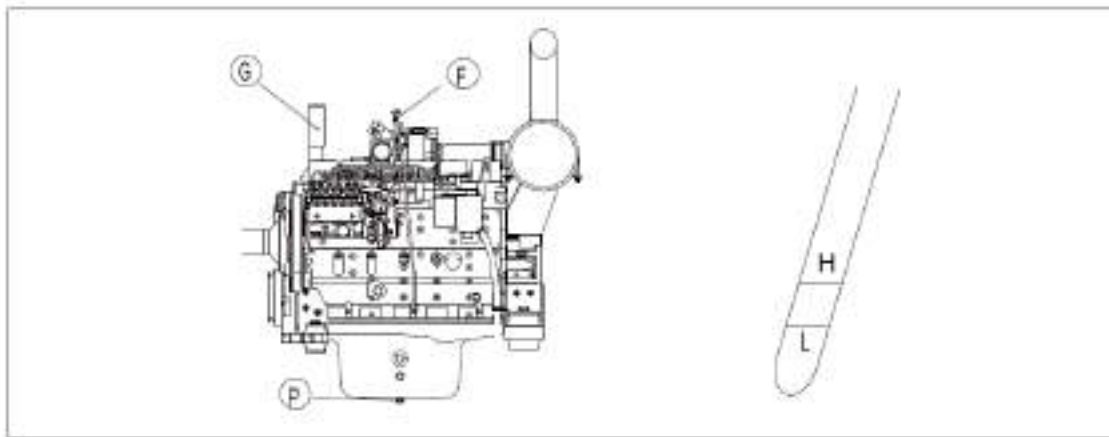

Figure 4-6 Engine oil filling port and the dipstick
- b). Pull the dipstick (F) out and wipe off the oil with a cloth.
- c). Insert the dipstick (F) fully into the oil filling port, and then pull the dipstick out.
- d). The oil level should be between the H and L mark on the dipstick (F). If the oil level is below the L
mark, you should add oil through the filling port (G), as shown in Figure 4-6. If the oil level is higher than the H mark, open the drain valve at the bottom of the engine sump (P) to drain the excessive oil, and then check the oil level again. If the oil level is appropriate, screw the filling port cover on and close the hood.